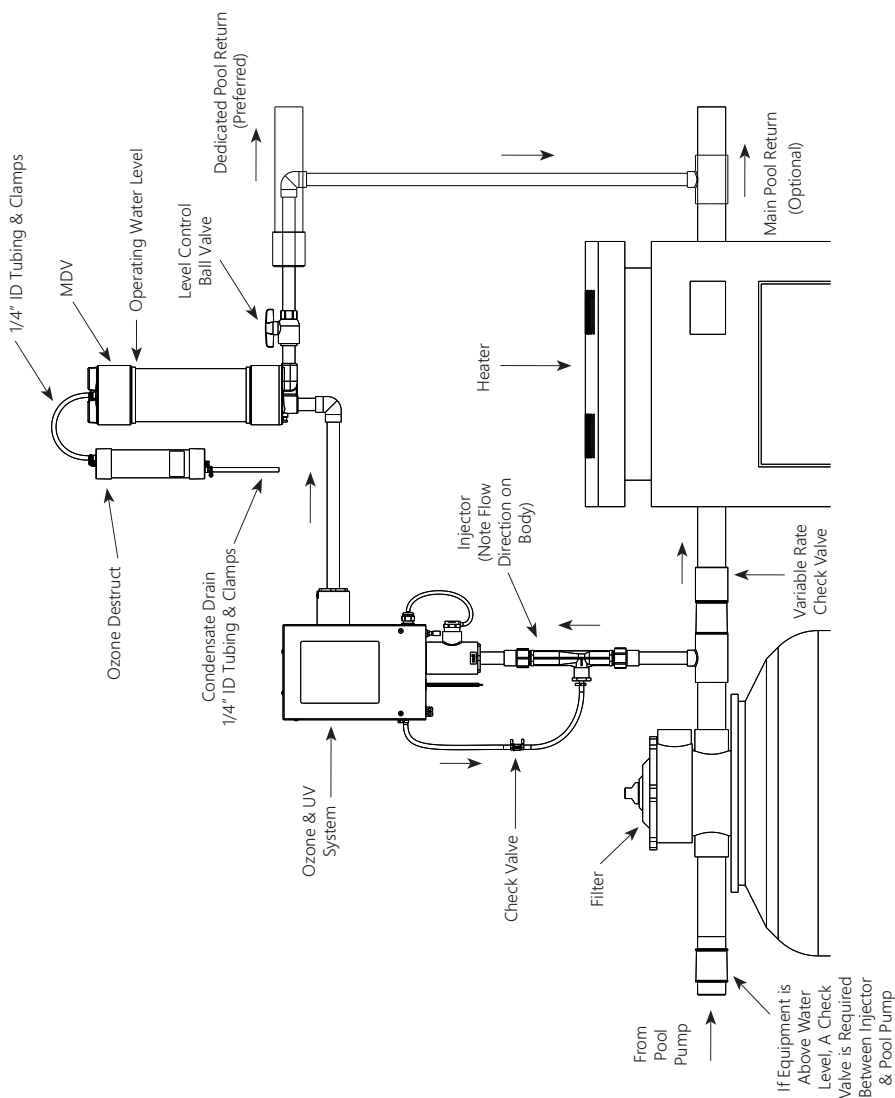

Figure 1: Typical Plumbing Arrangement with MDV
NOTE: There are additional parts for the MDV installation (compare Figure 2 in the AOP®-S manual with Figure 1 in this manual). The additional installation steps specific to the MDV parts are described below.
2. Mount the MDV vertically as shown in Figure 1 to a solid surface (i.e. fence, wall, post) using the (2) cable ties, (4) cable tie mounts, and (4) screws included. Use a pair of pliers to tighten and secure the cable tie. If trimming away excess, fold tab over to avoid the sharp edge. To avoid discoloration, mount in an area out of direct sunlight.
3. Mount the ozone destruct vertically to a flat surface using (2) #6 screws.
4. Install by-pass plumbing as shown in Figure 1.